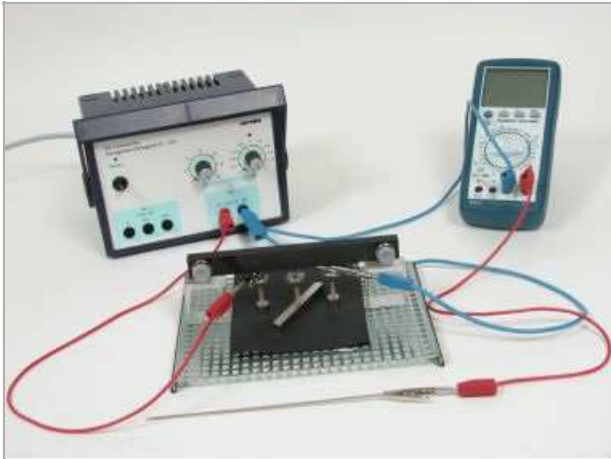
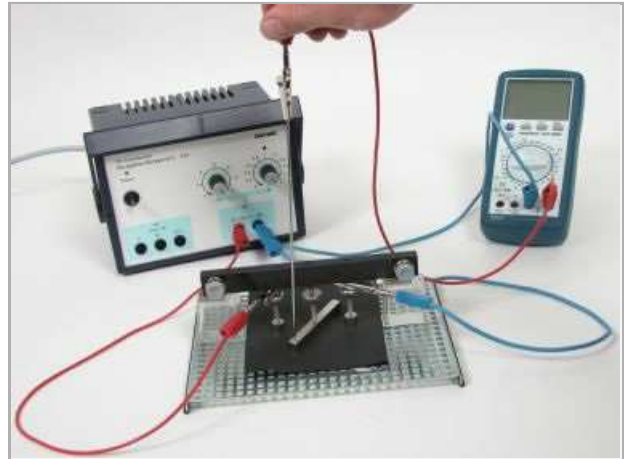

Fig. 17
Fig. 18
- Rotate the rod electrode by an angle of about 45 degrees with respect to the starting position (Fig. 17). Repeat the measurement of the electric potential along the surface of the rod (Fig. 18).